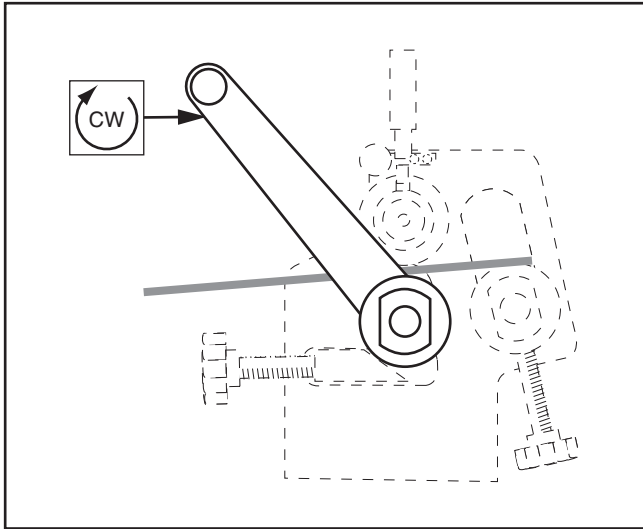

Figure 17. Feeding workpiece.
- Turn crank handle clockwise to feed workpiece until its leading edge is directly above rear roller, as shown in **Figure 17**.